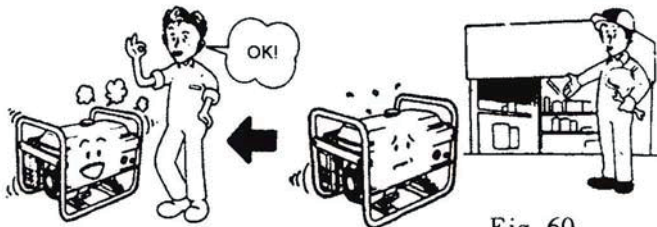

Fig. 60
10.2.3 If the problem still exists after the above steps, consult your dealer for help. (Figure 60)